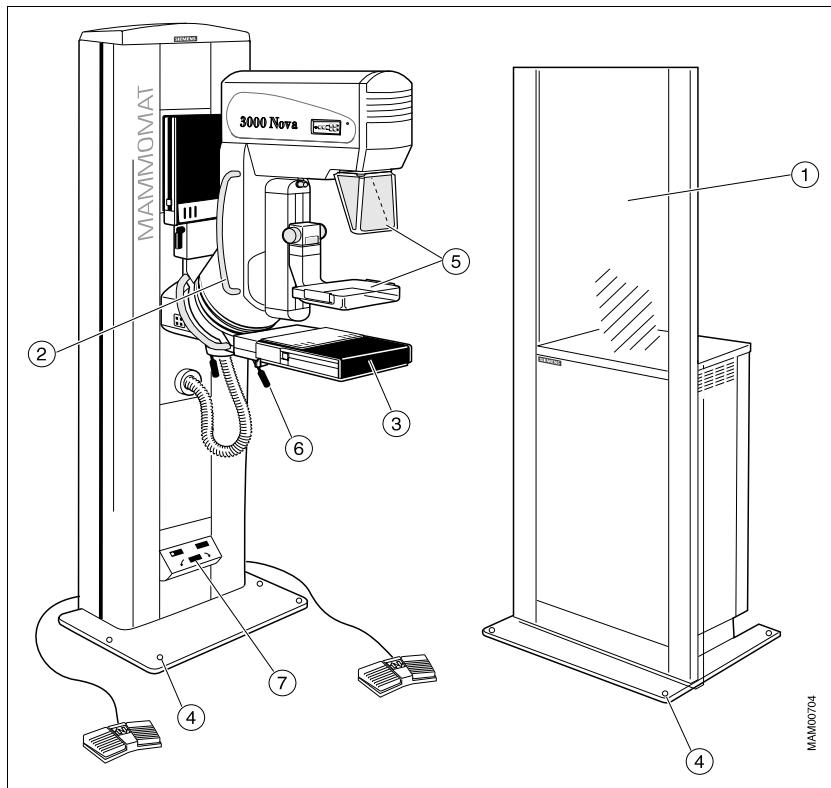

Fig. 1: MAMMOMAT checks
- Check the radiation protection shield for possible damage (1/Fig. 1 / p. 13).
- Check the swivel arm/PPS tube attachment by pulling on both support rails (a minimum play of approximately $\pm 2^\circ$ is correct). (2/Fig. 1 / p. 13).
- Check the mounting of the basic table as well as the locking mechanism for the exposure system (3/Fig. 1 / p. 13).
- Check the "Flying Wing" locking mechanism (wing \triangleq basic table). Swivel "wing 1" ("wing 1" is the table with the stereo connector) toward "wing 2" and back (6/Fig. 1 / p. 13).
- Verify that the system is level with respect to the floor. Check the level screws (4/Fig. 1 / p. 13) with a water level and, if available, the floor mounting (optional).